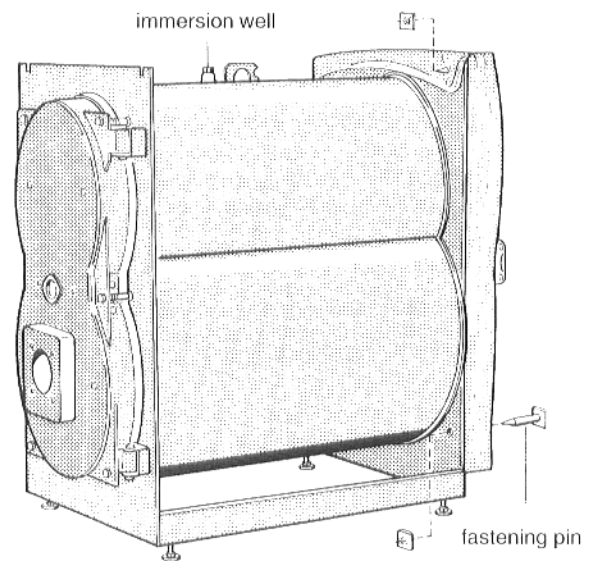

Fig. 4
- Lay the thermal insulation for the rear panel on the rear panel of the boiler body and fasten with two fastening pins and fastening plates each top and bottom (Fig. 4).
- Remove the protective cap from the immersion well (Fig. 4).
The immersion well must remain accessible (Fig. 4).